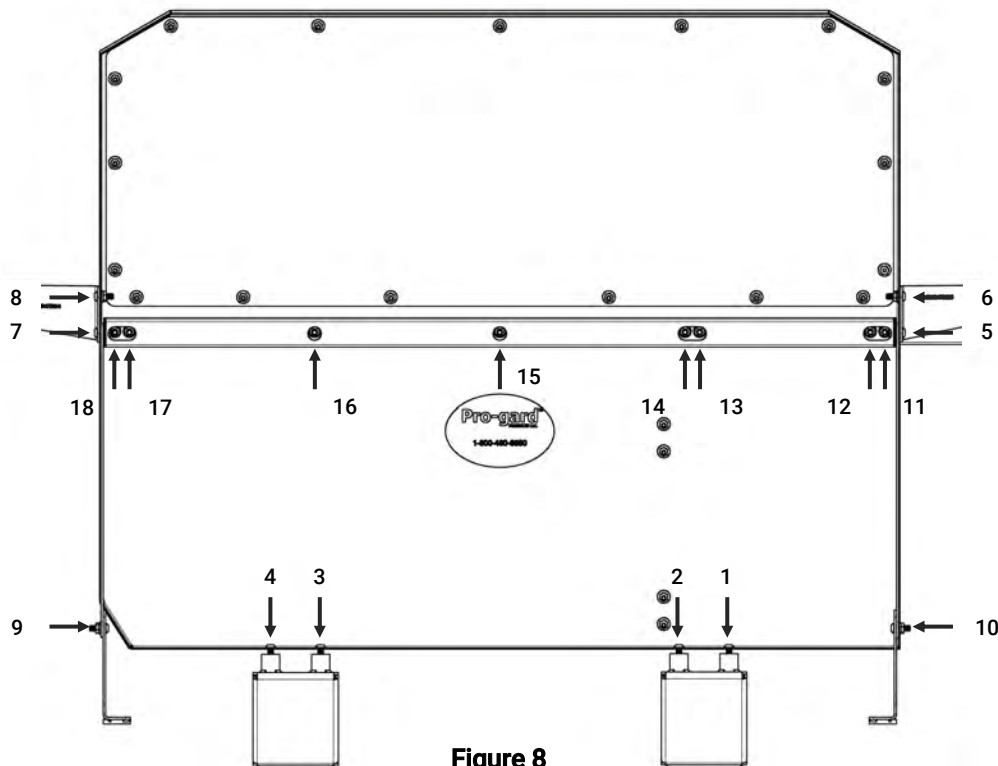

Figure 8
2. Tighten all the 5/16" fasteners installed thus far in the order indicated in Figure 8 using a 3/16" hex wrench and a 1/2" socket.